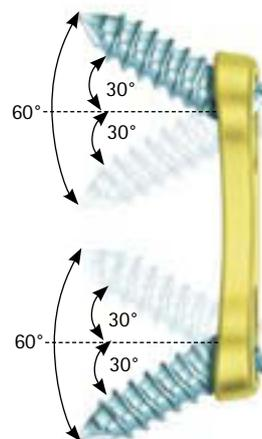

Fig. 13b
- The Quintex® dynamic plate has a maximum angulation of up to +30°/-30° in all slots of the plate (Fig. 13b).